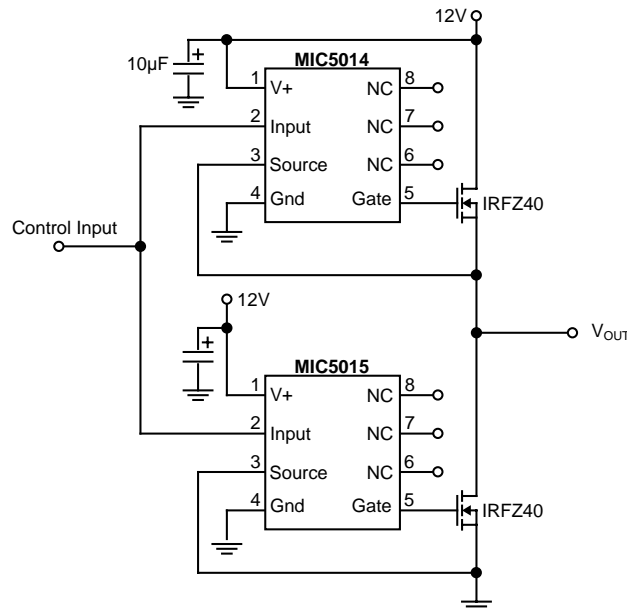

Figure 13: Push-Pull Driver
**Push-Pull Driver With No Cross-Conduction** (Figure 13) As the turn-off time of the MIC5014/15 devices is much faster than the turn-on time, a simple push-pull driver with no cross conduction can be made using one MIC5014 and one MIC5015. The same control signal is applied to both inputs; the MIC5014 turns on with the positive signal, and the MIC5015 turns on when it swings low. This scheme works with no additional components as the relative time difference between the rise and fall times of the MIC5014 is large. However, this does mean that there is